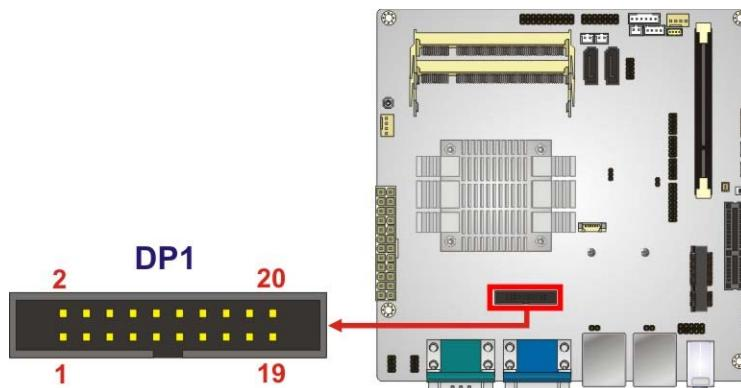

Figure 3-7: DisplayPort Connector Location
**CN Location:** See Figure 3-7